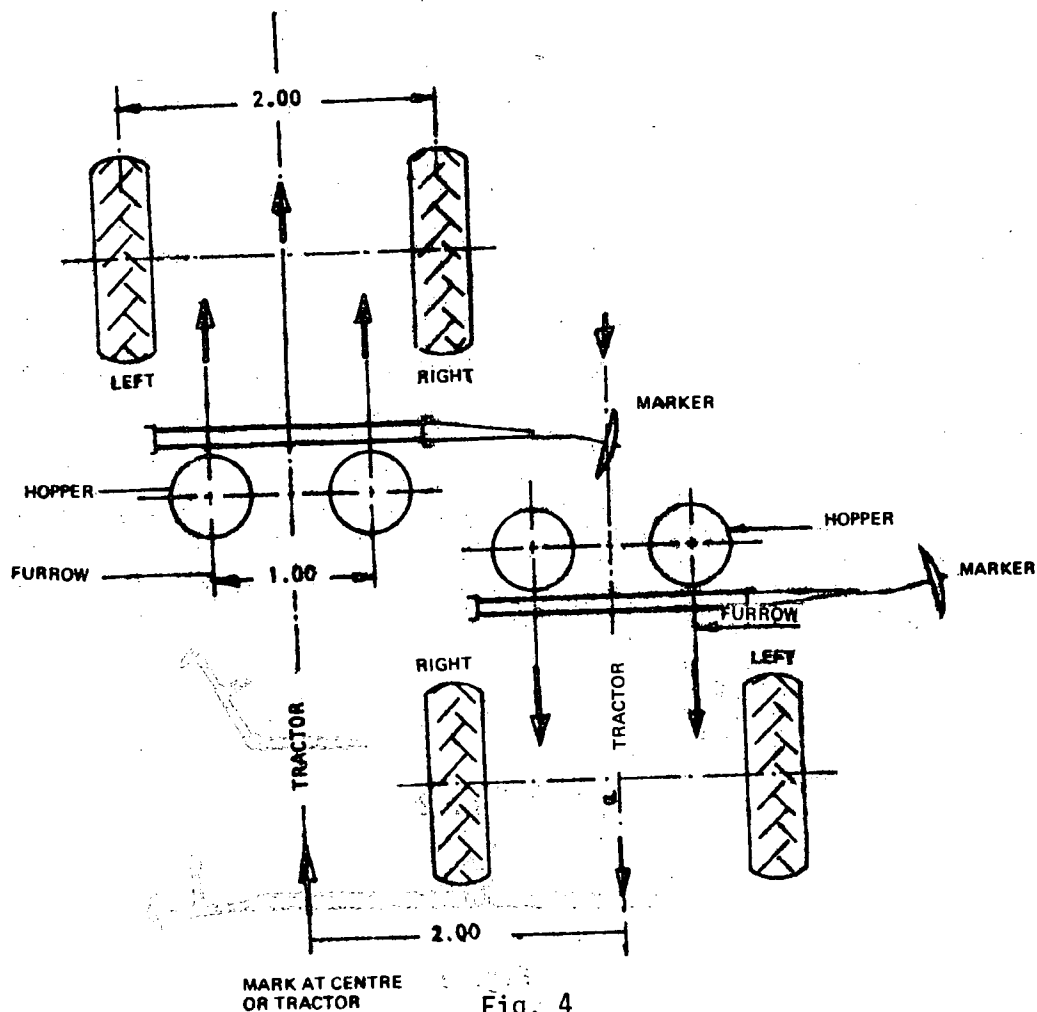

Fig. 4
- Twice the distance between furrows if the centre of the tractor is used as reference (Fig. 4).